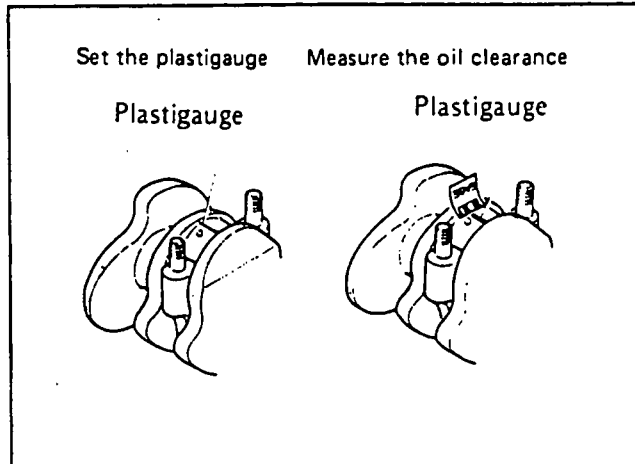

Figure 21. Measuring Oil Clearance
2. Cut a length of plastigauge to the same length as the width of the bearing. Place it on the crankpin, parallel with the crankshaft. **DO NOT PLACE OVER AN OIL HOLE.** See Figure 21.